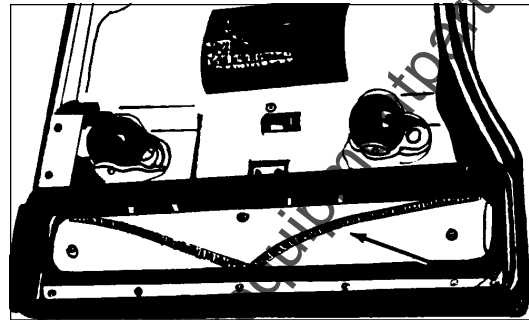

Figure 10
2. Check the bristles, make sure the bristles are not shorter than 5/16 inch. See figure 10